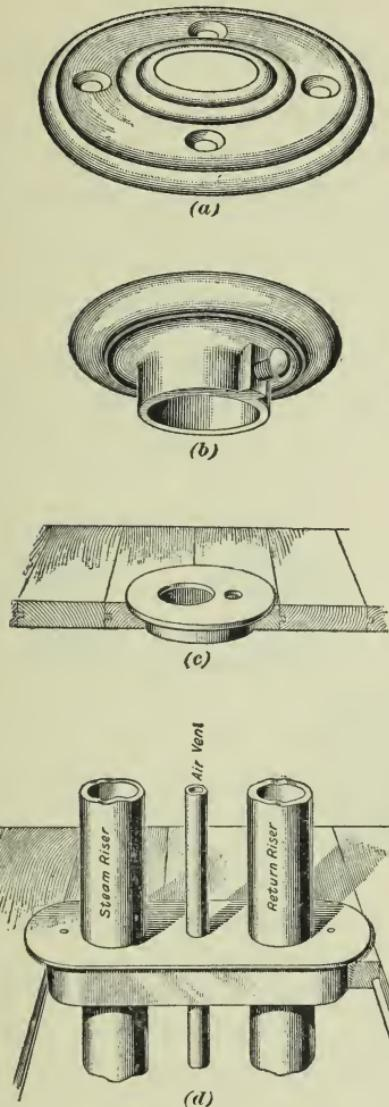

FIG. 60
**85.** Floor and ceiling plates, sometimes called escutcheons, are used for making a neat finish around the pipes where they pass through partitions, floors, or walls. The styles shown are made of cast iron or cast brass. Fig. 60 (*a*) shows a simple, plain cast-iron floor plate with a bead on the outer edge and at the opening through which the pipe passes. Sometimes screw holes are drilled in the plate, as shown, so that it can be secured to the floor.
Fig. 60 (*b*) shows a similar plate with a collar that passes around the pipe. It is tapped for a setscrew, which, when screwed against the pipe, prevents the plate from falling down. This is generally used as a ceiling plate. Fig. 60 (*c*) shows the **Rutzler floor plate**, for use where a one-pipe riser accompanied with a small air-vent pipe passes through the
floor. Fig. 60 (*d*) shows the same floor plate for two-pipe work, when the steam and return risers are accompanied with a small air-vent pipe. In these styles of plates, the
**86.** If the plate shown in Fig. 60 (*b*) is used in connection with a combustible ceiling, it should have a projecting collar around the pipe at the upper opening, to prevent the pipe touching the woodwork. The plates shown in Fig. 60 (*c*) and (*d*) can also be used as ceiling plates, and may be secured in place by cleats of strap-iron fastened to the bottom. The projecting flange is long enough to reach through the floor, and the straps are bent over at the floor above.
**88.** Fig. 61 shows a good screw floor plate, known as the **Hall thimble**. The three loose parts are shown in Fig. 61 (*a*), while Fig. 61 (*b*) shows the thimble in position around a steam pipe passing through a fireproof floor. The plates shown in Figs. 60 and 61 must be put in place, or at least slipped over the pipes, before the pipes are screwed up.